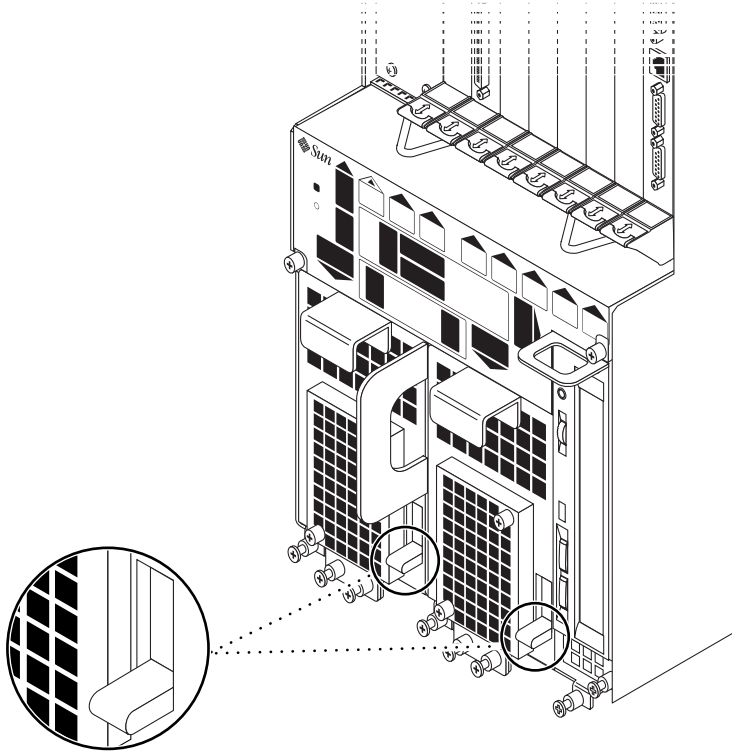
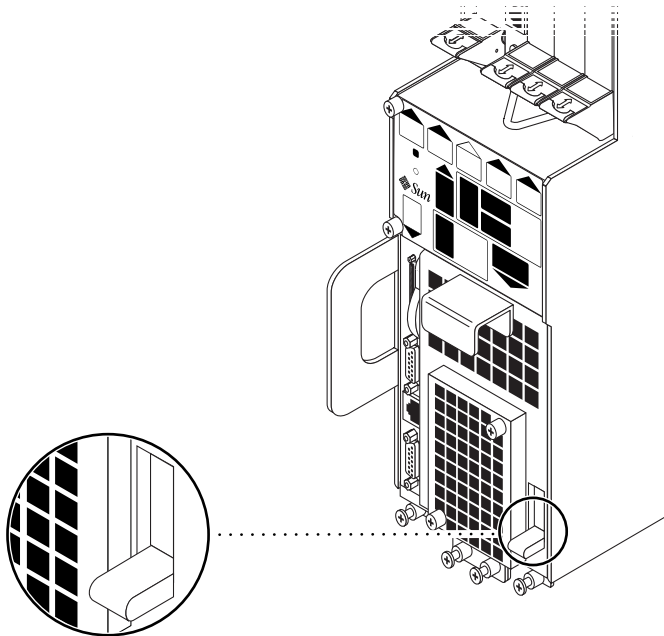

FIGURE 7-1 Locating the Power Supply Locking Mechanism on the Netra ct 800 Server
FIGURE 7-2 Locating the Power Supply Locking Mechanism on the Netra ct 400 Server
FIGURE 7-1 shows the location of the two power supply locking mechanisms on the Netra ct 800 server, and FIGURE 7-2 shows the location of the single power supply locking mechanism on the Netra ct 400 server. Make sure you lock *both* power supplies if you are powering on a Netra ct 800 server.
6. If you want to completely power off the Netra ct server, push the purple power supply unit locking mechanism(s) up into the unlocked (Ⓛ) position (see FIGURE 7-1 on page 122 for the Netra ct 800 server or FIGURE 7-2 on page 123 for the Netra ct 400 server).
7. If you want to completely power off the Netra ct server, push the purple power supply unit locking mechanism(s) up into the unlocked (⏏) position (see FIGURE 7-1 on page 122 for the Netra ct 800 server or FIGURE 7-2 on page 123 for the Netra ct 400 server).